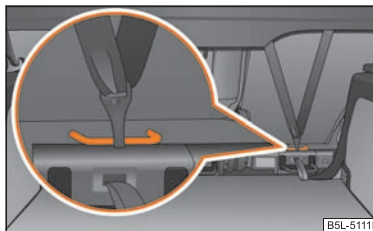

Fig. 149 Rear seat: Top Tether
In certain countries national legal provisions also require the equipment of the rear seat with fixing eyes for child seat using the "Top Tether" system ⇒ fig. 149.
- Attach the child seats with the "Top Tether" system only to the points provided for this purpose => fig. 149.